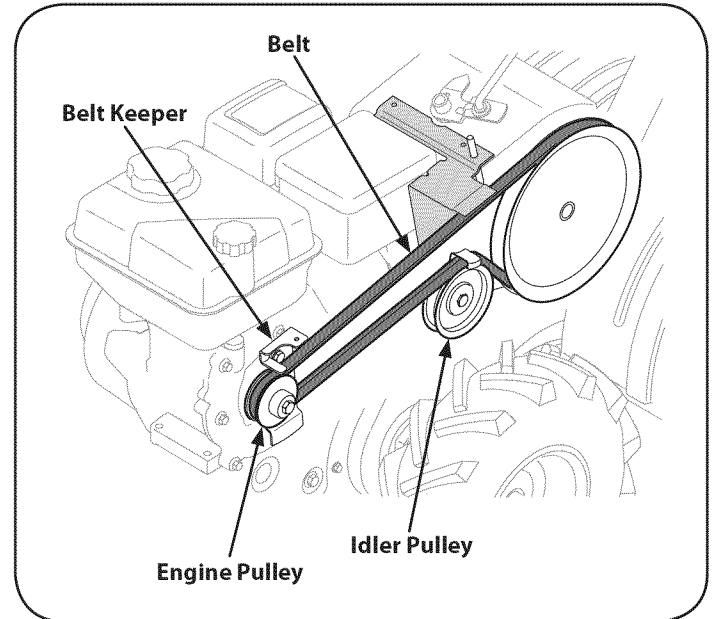

Figure 23
3. Remove the belt keeper assembly located behind the engine pulley by removing the two hex bolts and lock washers. See Figure 23.
4. Remove the idler pulley by removing the bolt and nut. See Figure 23.
5. Remove the old belt and install the new belt. Follow the instructions in reverse order to re-install the belt keeper and belt cover. See Figure 23.